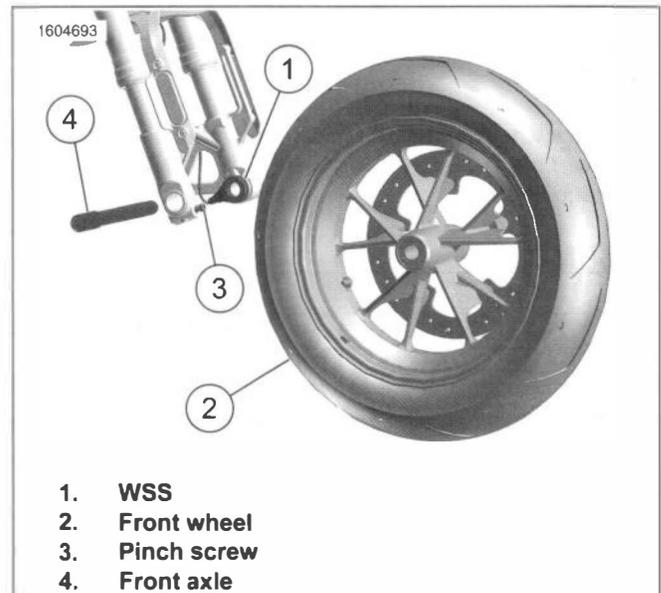

Figure 3-3. Front Wheel Mount
1. See Figure 3-3. Remove front wheel.
- a. Loosen pinch screw (3).
- b. Remove front axle (4).
- c. Remove front wheel (2).
1. See Figure 3-3. Install front wheel.
- d. See Figure 3-3. Install front axle (4) through right fork, front wheel and wheel speed sensor (1).